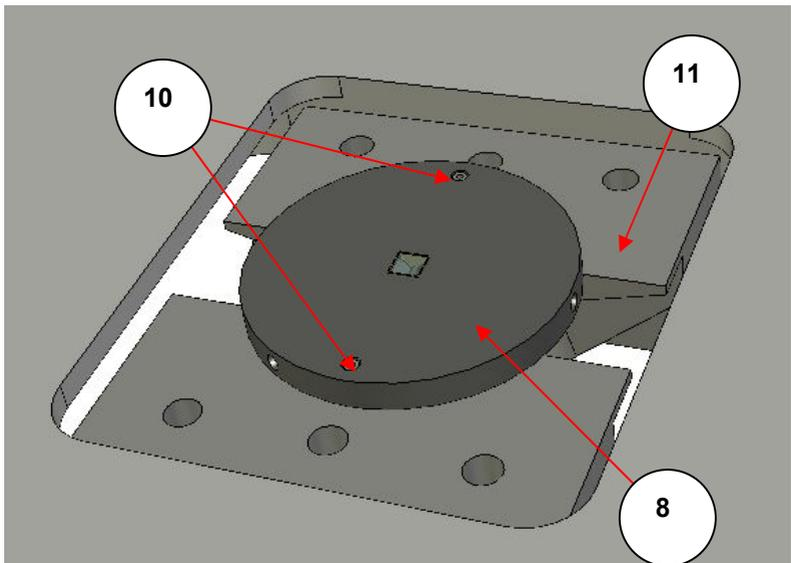

Fig 4 – Close Up View Of Diamond/Tungsten Carbide Puck In SCF Golden Gate™ ATR Top-Plate.
If the graphite gasket (7) has bonded to both the pressure chamber (6) and diamond puck (8) faces, the diamond puck will be lifted clear of its seating from its two small pin locations (10) on the heating block (11) by removal of the pressure chamber (6). It is therefore **very important**, when the screws (9) have been undone that the action for removal of the pressure chamber (6) is in an upward motion with no twisting to the assembly. Too much of a twisting force might cause damage to the two location pins (10) and it will not be possible to reseat the diamond puck (8) correctly for the next use. (See Fig 4).
From the design of the SCF Golden Gate™ Top-Plate, the diamond puck (8) is held into position onto the heating block (11) by two location pins (10). (See Fig 4.) There are two corresponding drilled holes in the underside of the diamond puck that align with the location pins.